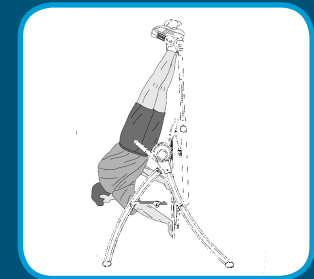

Figure 10
- Add gentle stretching and light exercises only after you are comfortable with inversion (Figure 10). Movement while inverted may help make inversion a more comfortable experience and may help joints to realign and muscles to stretch and relax.